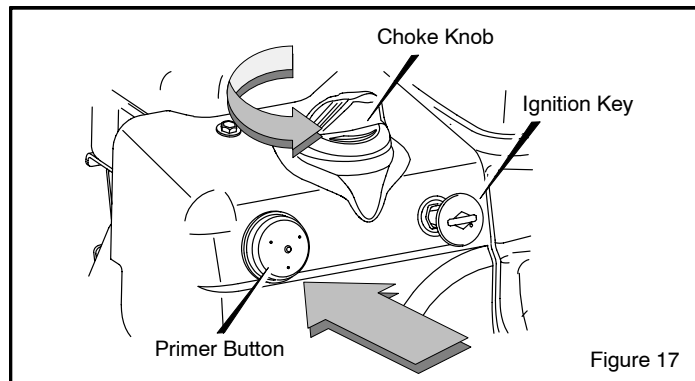

Figure 17
3. Insert key into ignition slot. Make sure it snaps into place (Figure 17). Do not turn key.